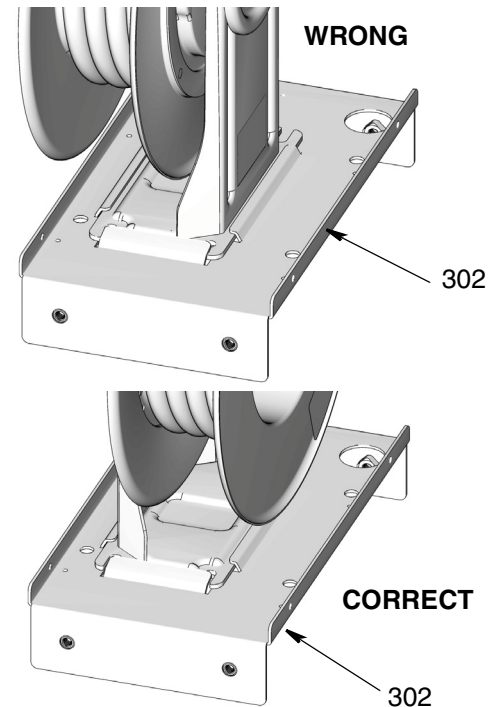

FIG. 5
5. Position reel on base (302), verifying reel is correctly centered on base as shown in FIG. 5
NOTE: NOTE: Although the reel can be installed on the reel base (302) with the guide arm positioned on the left or the right side, there is only one correct installation position. When the reel is correctly installed in the reel base, the reel will be centered over the base. See FIG. 5 to verify you have installed the reel in the reel base correctly.